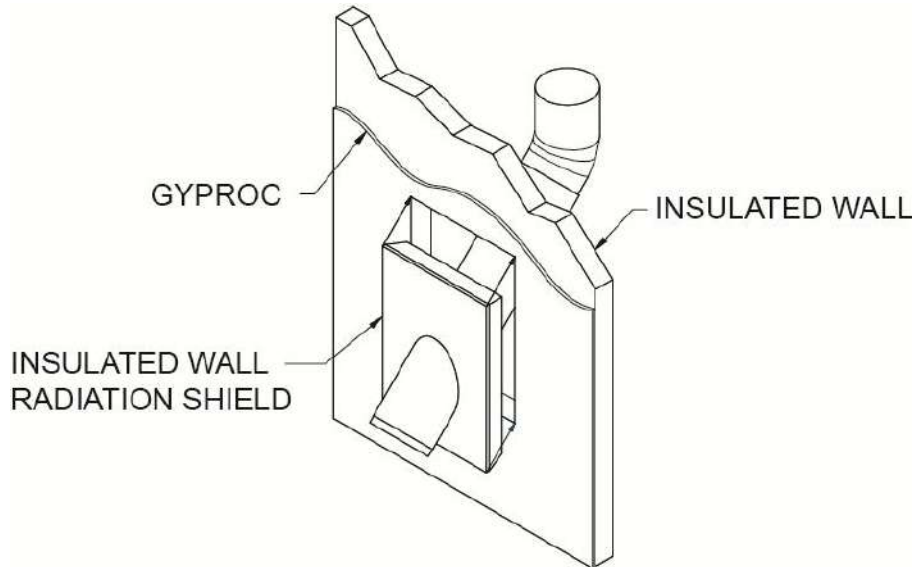

Figure 48
* This fireplace may be installed with a 7-inch chimney of the same type as the ones listed in the above table, provided that a 6" to 7" insulated increaser (see figure 48, parts C and D), supplied by the chimney manufacturer, is installed for the transition between the 6-inch anchor plate(see figure 48 part A) which can be secured with screws (see figure 48 part B) and the 7-inch flue. For Security Chimneys, the part number is 6AW7.